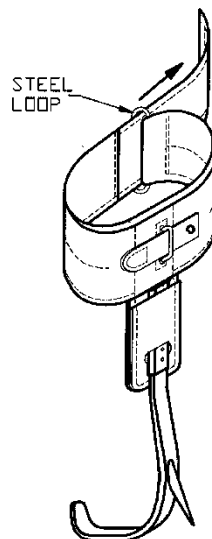
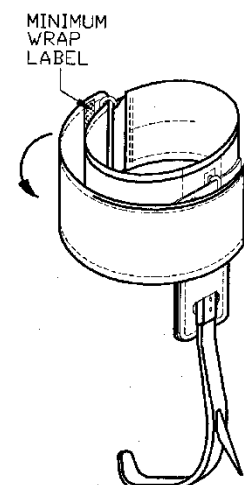

Fig. 4
Fig. 5
4. Continue to pull the end of the pad through the steel loop until the pad is snug to the leg. *Always* ensure that the MINIMUM WRAP LABEL has been pulled completely through the steel loop (Fig. 4 and Fig. 5). Wrap the free end around the pad, adhering the hook fastener to the loop fastener on the body of the pad (Fig. 5). This ensures a proper wrap. Failure to do so may cause release, resulting in serious injury or death.